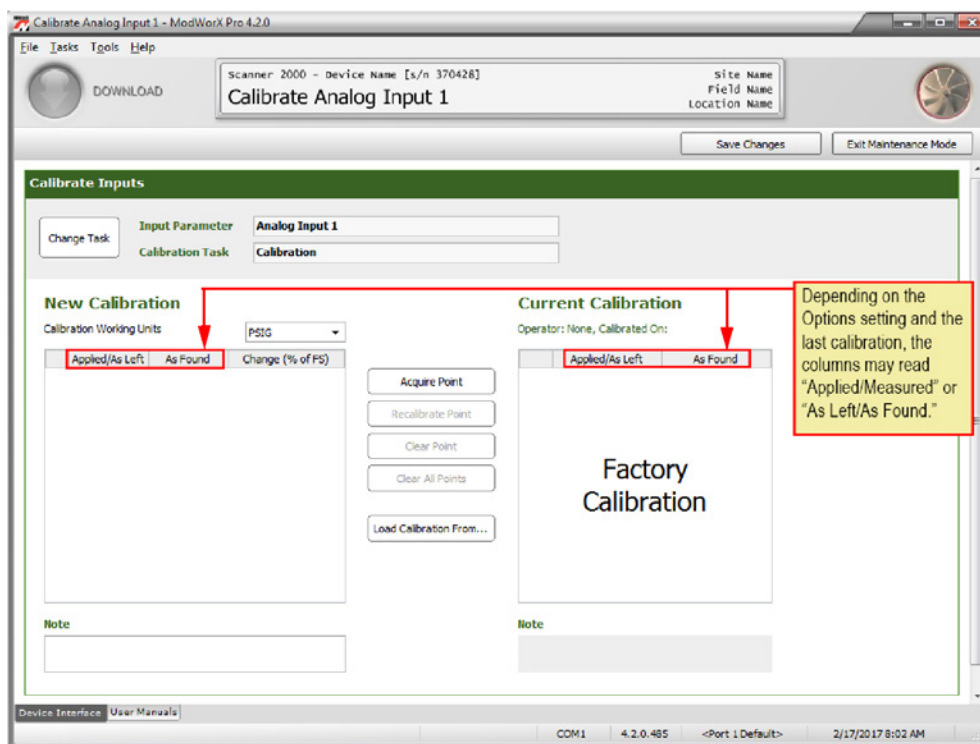

Figure 6.24
1. Observe the calibration settings at the bottom of the screen (Figure 6.24, page 94). To calibrate the sensor, click on the blue **Calibrate** hyperlink in the Sensor Calibration section and follow the screen prompts.
2. Observe the verification settings at the bottom of the screen (Figure 6.24). To verify the sensor's calibration, click on the blue **Verify** hyperlink and follow the screen prompts.